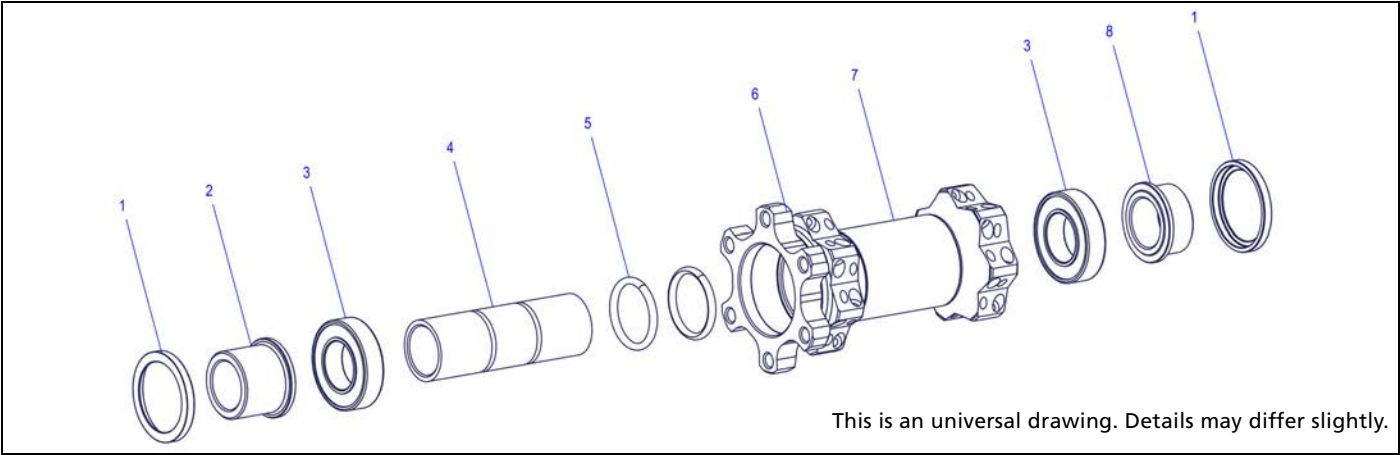

Figure 4-5: 350 thru axle front wheel hub
1. Plug the mounting pin into one of the adapters (fig.4-5/2 or 8).
3. Remove the adapter (fig.4-5/2 or 8) and the cover (fig.4-5/1).
1. Push the spacer (fig.4-5/4) beside and place a spin drift on the edge of the ball bearing (fig.4-5/3).
5. Tap out the bearing (fig.4-5/3) on the disc side.
1. Grease the bearing seats and the inner surface of the hub shell (fig.4-5/6).
2. Put a new bearing (fig.4-5/3) with its colored side facing outwards onto the bearing seat on the disc side.
8. Slide the spacer (fig.4-5/4) with the o-rings (fig.4-5/5) into the hub.
9. Put a new bearing (fig.4-5/3) with the colored side facing outwards onto the bearing seat.
13. Tap in the bearing (fig.4-5/3) using a nylon hammer.
14. Grease both bearings (fig.4-5/3).
1. Put the left adapter (fig.4-5/2) and the cover (fig.4-5/1) onto the hub.
2. Put the small diameter of the mounting sleeve onto the left adapter (fig.4-5/2).
4. Tap the cover (fig.4-5/1) onto the hub.
1. Put the right adapter (fig.4-5/8) and the cover (fig.4-5/1) onto the hub.
2. Put the big diameter of the mounting sleeve onto the right adapter (fig.4-5/8).